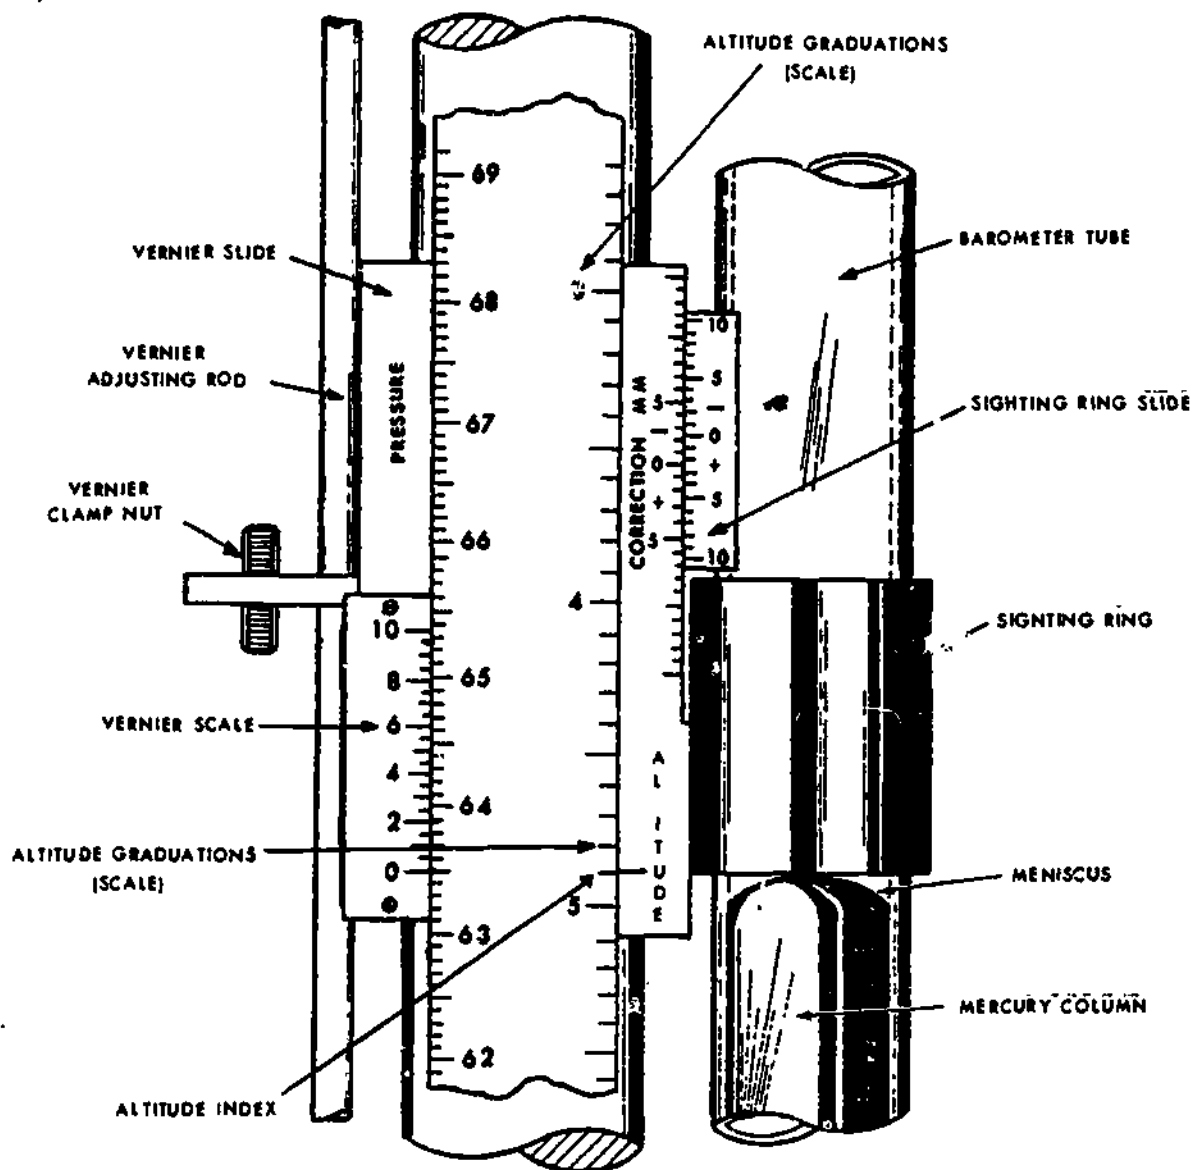

Figure 3.
2. Using figure 3, the altitude index is indicating approximately